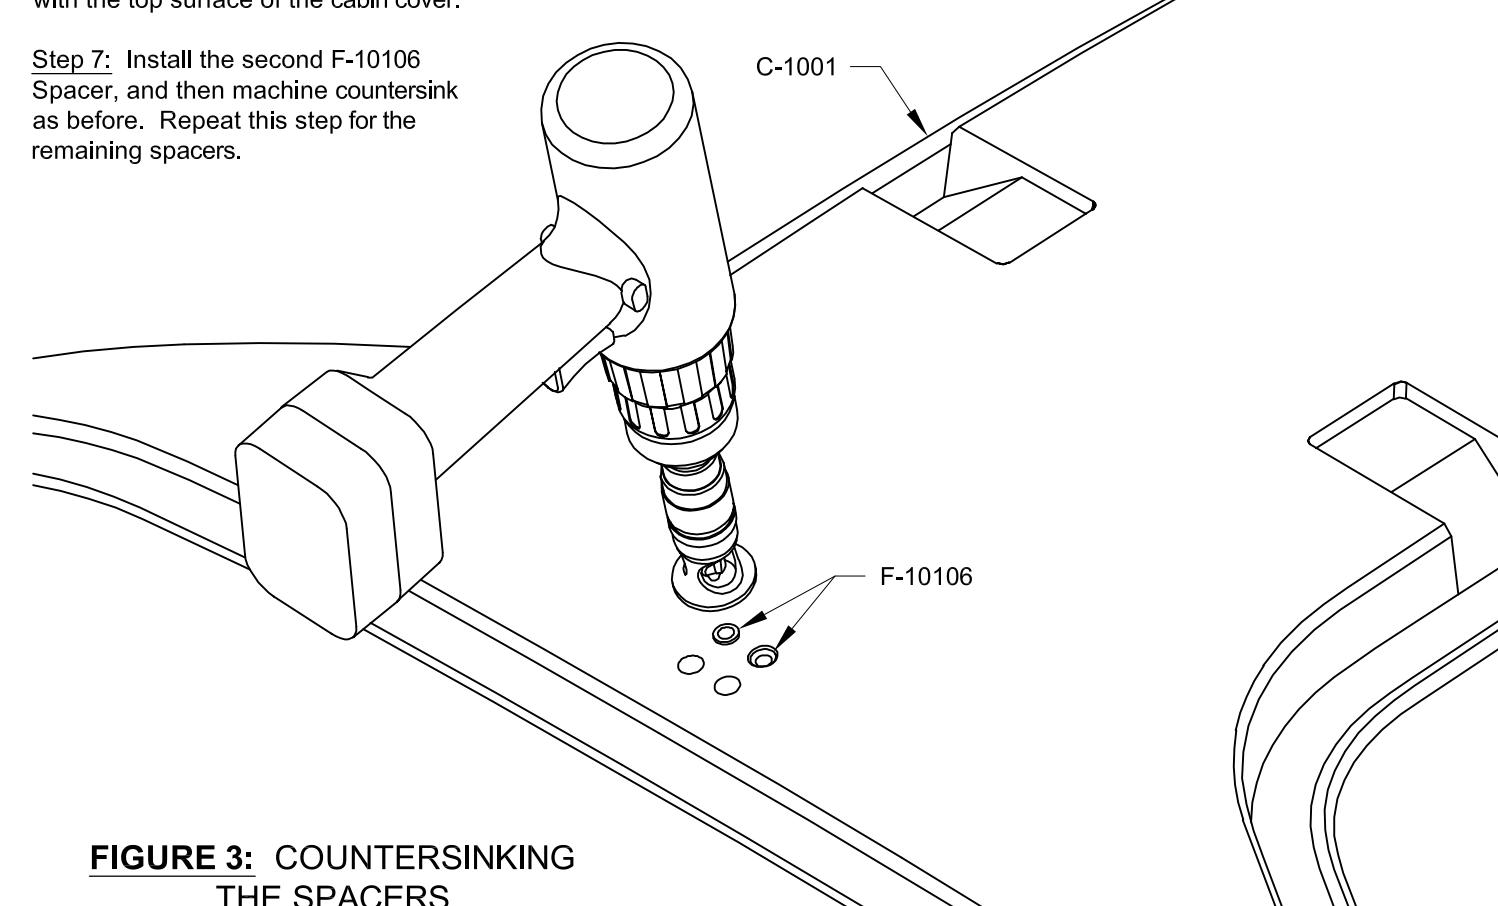

FIGURE 3: COUNTERSINKING THE SPACERS
Step 6: Machine countersink the F-10106 Spacer and the C-1001 Cabin Cover as shown in Figure 3. The countersink must be deep enough to flush the head of an MS24694S72 screw with the top surface of the cabin cover.